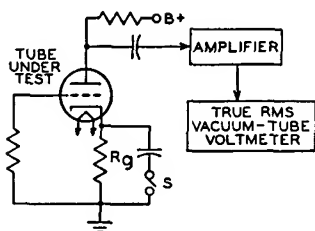

Fig. 98—Test circuit for measuring hum and noise characteristics of high-fidelity audio-amplifier tubes.
**Hum and noise** characteristics of high-fidelity audio amplifier tube types such as the 7025 and the 7199 are tested in an amplifier circuit such as that shown in Fig. 98. The output of the test circuit is fed into a low-noise amplifier. The bandwidth of this amplifier depends on the characteristic being measured. If hum alone is being tested, a relatively narrow bandwidth is used to include both the line frequency and the major harmonics generated by the tube under test. In noise or combination hum-and-noise measurements, the bandwidth is defined in the registration of the tube type.